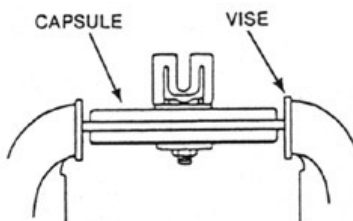

Figure 9.
2. When removing flexure, clamp capsule in vise. Use protective facing on jaws of vise to protect capsule. See Figure 9.